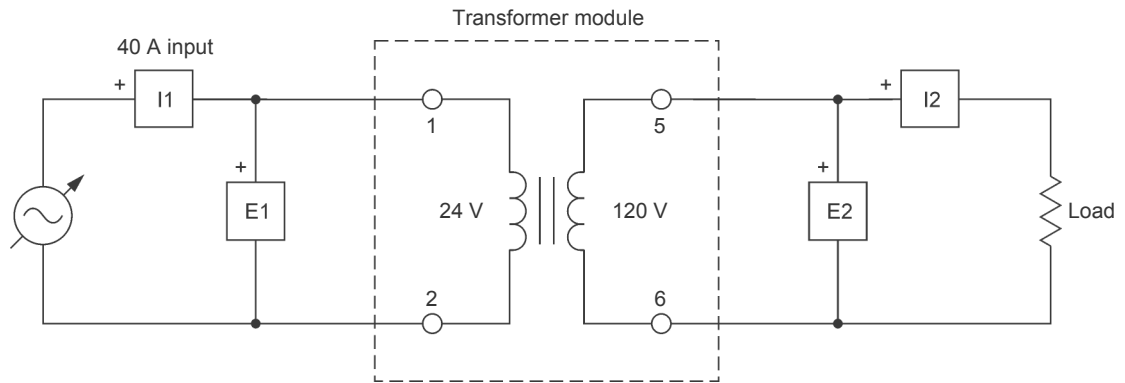

Figure 8. 120 VA step-up transformer connected to a resistive load.
19. Set up the 120 VA step-up transformer shown in Figure 8.